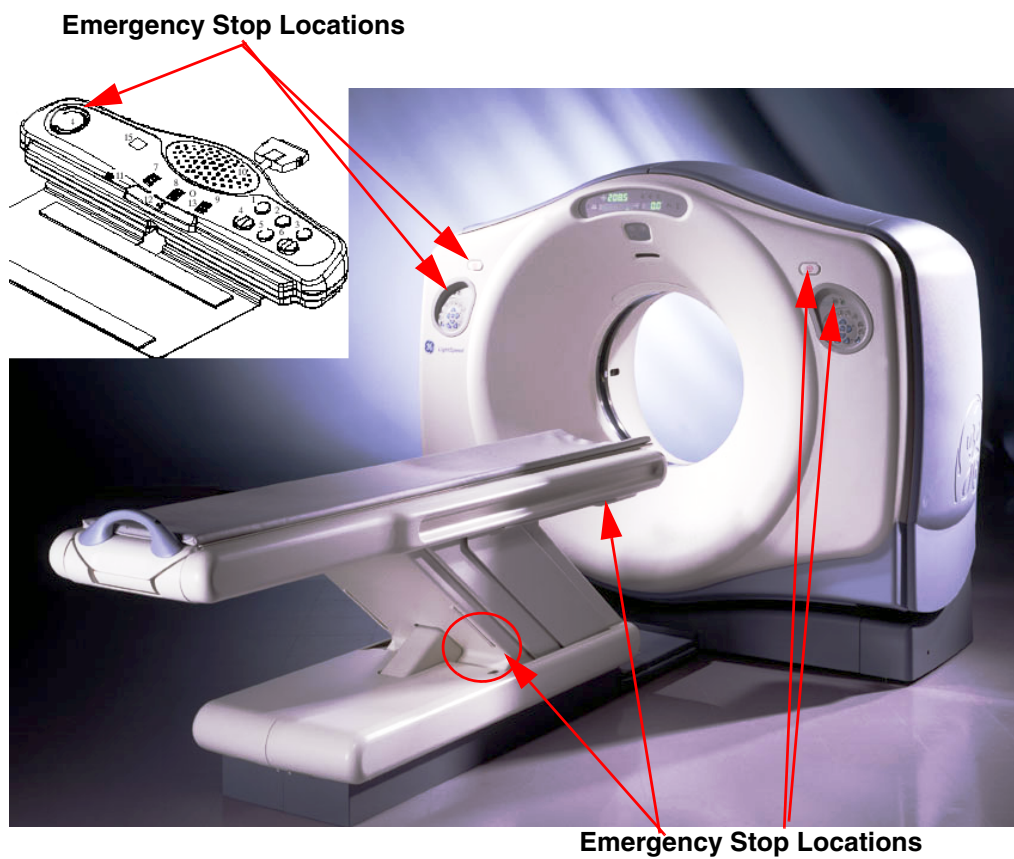

Figure 5-9 Emergency Stop button locations
- Note: Emergency Stop buttons are located on the front and rear of the gantry (eight in all). They are also located on both sides of the table base (four in all) and one on the SCIM (see Figure 5-9).